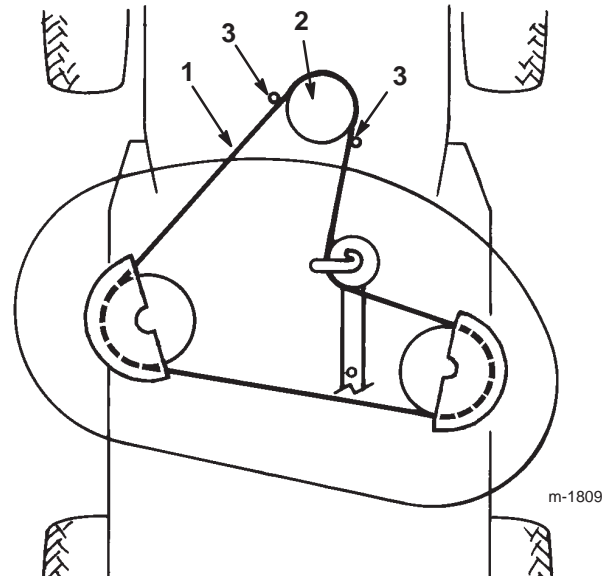

Figure 39
19. Remove the mower belt from the lower engine pulley (Fig. 39). If you are careful, you can flex the belt guides just far enough away from the pulley to remove the belt. If it is too difficult to remove the belt, loosen the bolts and nuts securing the belt guides.
9. Install the mower belt onto the lower engine pulley (Fig. 39). If you are careful, you can flex the belt guides just far enough away from the pulley to install the belt. If it is too difficult to install the belt, loosen the bolts and nuts securing the belt guides.